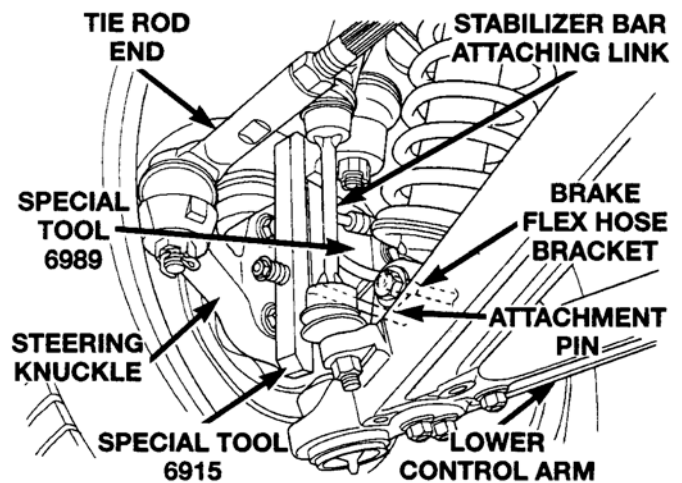

Figure 60 – Right Side Shown
10. Once the inclinometers are attached to the front Caster Angle Fixtures, the fixtures can be mounted on the front knuckle caster pads as shown in Figures 60.